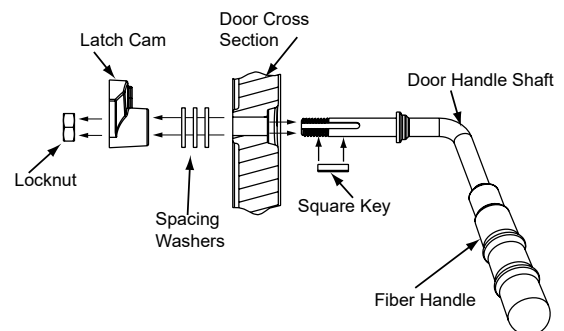

Figure 25.4 - Door Handle for Arched Door
3. Install additional washer(s) as shown in **Figure 25.4**.
7. Install handle turning in a counter-clockwise motion to desired location on door handle rod (**Figure 25.4**).